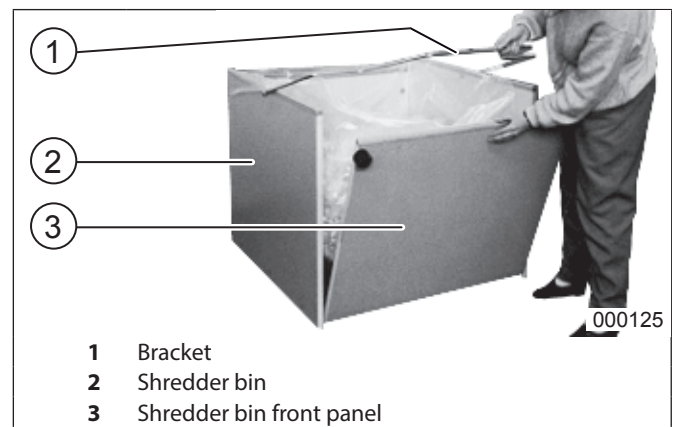

fig. 10 Emptying the shredder bin
1. Hold the basket by the bracket (fig. 10/1) and pull it out from under the shredder.
2. Lift the bracket and fold the basket's front wall downwards (fig. 10/3).